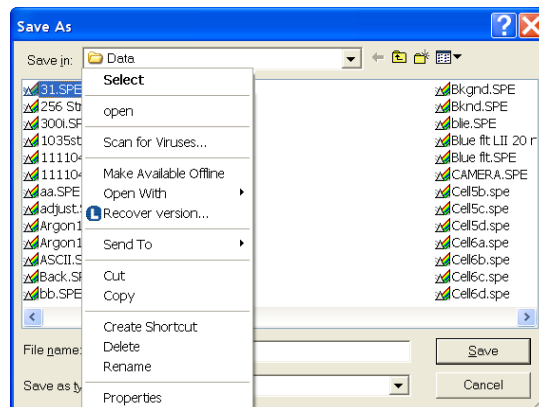

Figure 54. Right-click File Operations menu
2. Position the mouse cursor on the name of the file you want to delete and click the *right* mouse button. This will open the “right-click” **File Operations** menu, as shown in Figure 54.